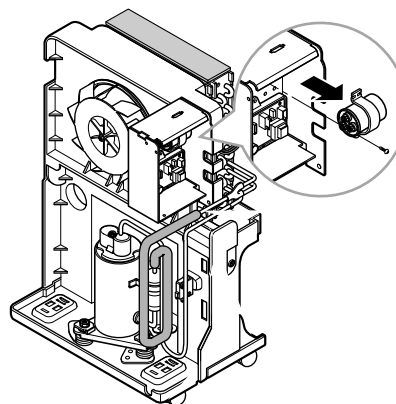

Figure 16
2. Remove the screw which fastens the PWB(PCB) ASSEMBLY, MAIN and pull it out after unhooking from 2 rectangular holes of the control box (lower). (See Figure 16)
1. Remove the screw that fastens the capacitor. (See Figure 16)